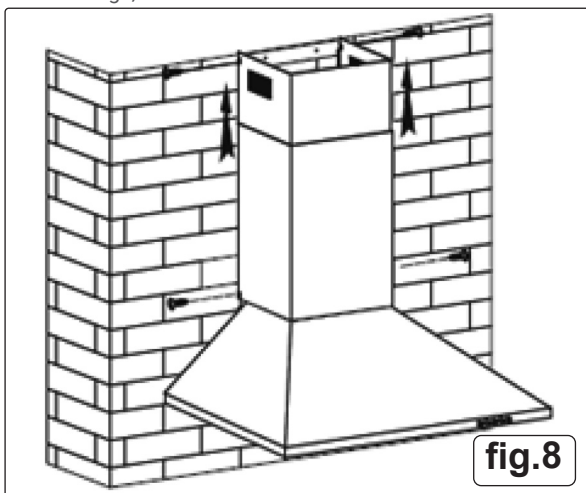

fig.8
- Adjust the height of the inside chimney to the position of the inside chimney bracket and fix with a screw. Note: The two safety vents are positioned on the back housing. See fig.8.